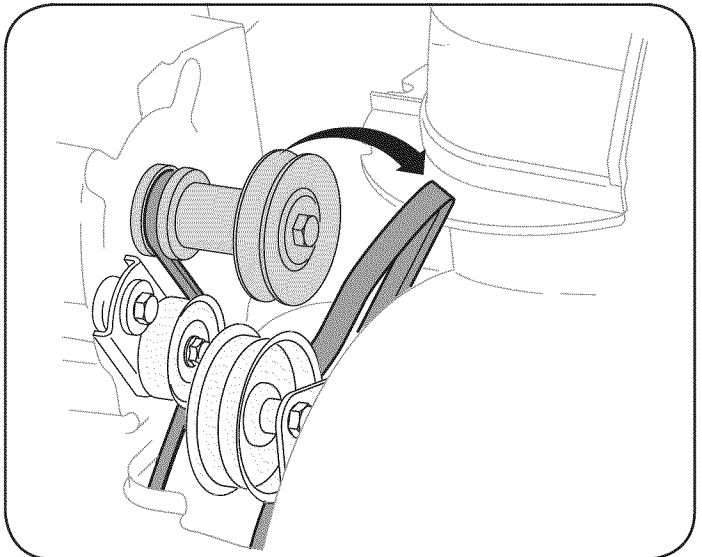

Figure 25
3. Roll the auger belt off the engine pulley. See Figure 25.